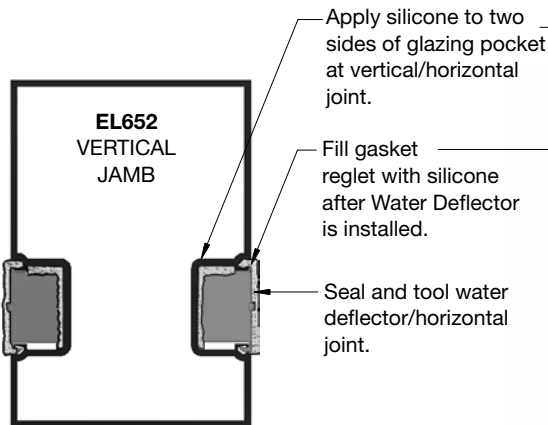

FIG. 16
4. Apply sealant to two sides of the glazing pocket and insert the WD200 Water Deflectors, sliding them down into position (FIG. 16).
5. Seal the Upper Water Deflector on three sides. The front, unsealed gap will allow water to pass down to the Base Sill where it can exit through the Weep Holes (FIG. 16).